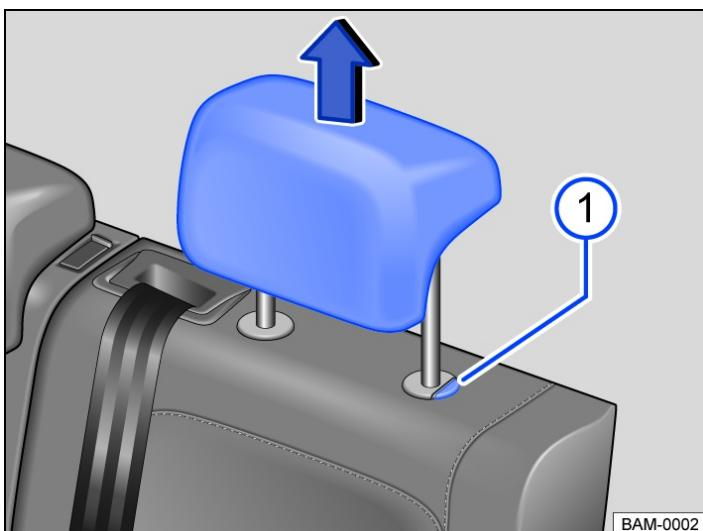

Fig. 2 Rear head restraint: removing.
- Pull the head restraint out fully while pressing the button → *Fig. 2* 1.
- Press and hold the button → *Fig. 2* 1 and push down the head restraint.